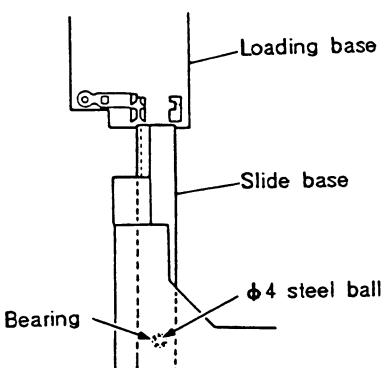

Fig. 10-7
2. While lifting the clamp holder [marked ⑤ in Fig. 10-2] with the right hand, hold the tray in the left hand as indicated by ⑥ and slide the slide base into the hard resin fittings on the loading base as shown in Fig. 10-7 to re-insert the disc tray. At this time, be sure to hold the steel ball in place with the index finger of the left hand. Also, be careful that the front panel is not damaged by the slide base and bearing of the steel ball's bearing (in the slide base) coming into contact with the panel.